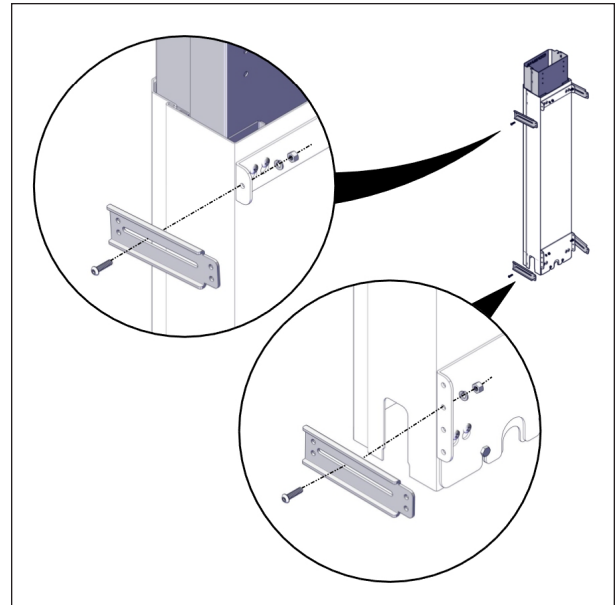

FIGURE 63: MOUNT BRACKET ARM INSTALLATION
3. Install the top and bottom mount bracket arms on one of the sleeves, see Figure 63.